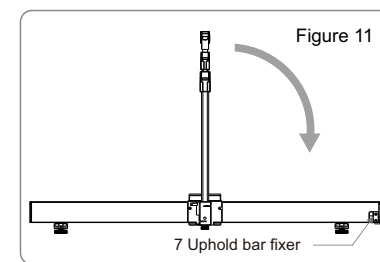

Figure 11
3. Fold down and lock uphold bar (8 \bar{y}) to its clip(7) . Return the support foot to original position.(Figure 11)